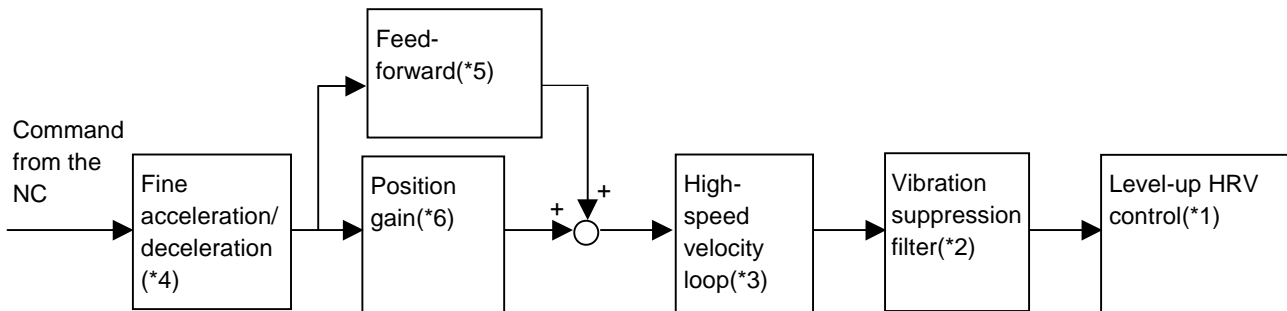

Fig. 3.4.1 (c) Level-up HRV control adjustment
- <5> Position gain adjustment (*6 in Fig. 3.4.1 (c))